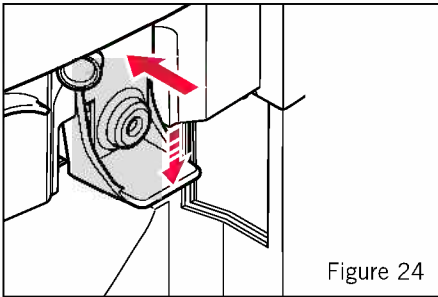

Figure 24
- Replace the milk frother in the coffee machine and push the lever downwards to lock. See Figure 24.